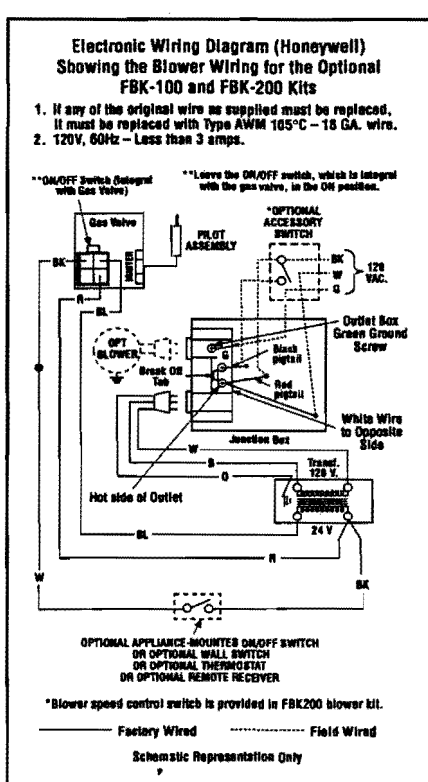

Figure 44
(See Figure 44 on page 21) -
**B. Electronic Wiring (See either Figures 44 or 45) -**
4. Connect the black power supply wire to the lower outlet's red pigtail lead and the white power supply wire to the common terminal of the outlet as shown in Figures 44 or 45.
8. If an optional control is to be used, wire it in the low voltage circuit as shown in Figures 44 or 45.
**Note:** The gas valve-mounted ON/OFF switch is shown in Figure 44. It is integral with the gas valve and should be set to the ON position.
**IMPORTANT:** Ground supply lead must be connected to the wire attached to the green ground screw located on the outlet box. See Figure 44 and 45. Failure to do so will result in a potential safety hazard. The appliance must be electrically grounded in accordance with local codes or, in the absence of local codes, the National Electrical Code, ANSI/NFPA 70-(latest edition). (In Canada, the current CSA C22-1 Canadian Electrical Code.)